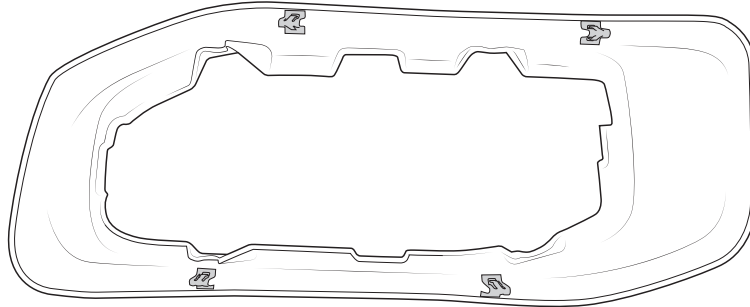

Figure 26
- A. Install the supplied metal retention clips onto the four plastic tabs of each AEV lamp bezel. Make sure that the clip sits flush onto the backside of the lamp bezel (fig. 26).